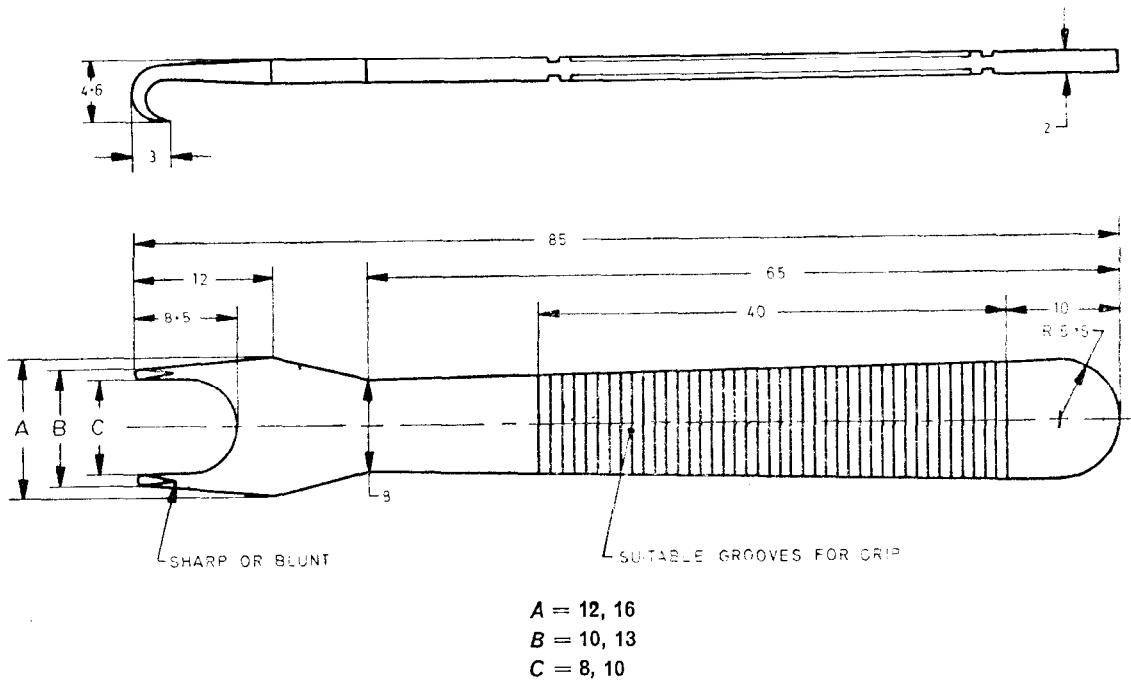

FIG. 1 RETRACTOR, ALAE, KILNER'S PATTERN
2. Shape and Dimensions — As shown in Fig. 1.